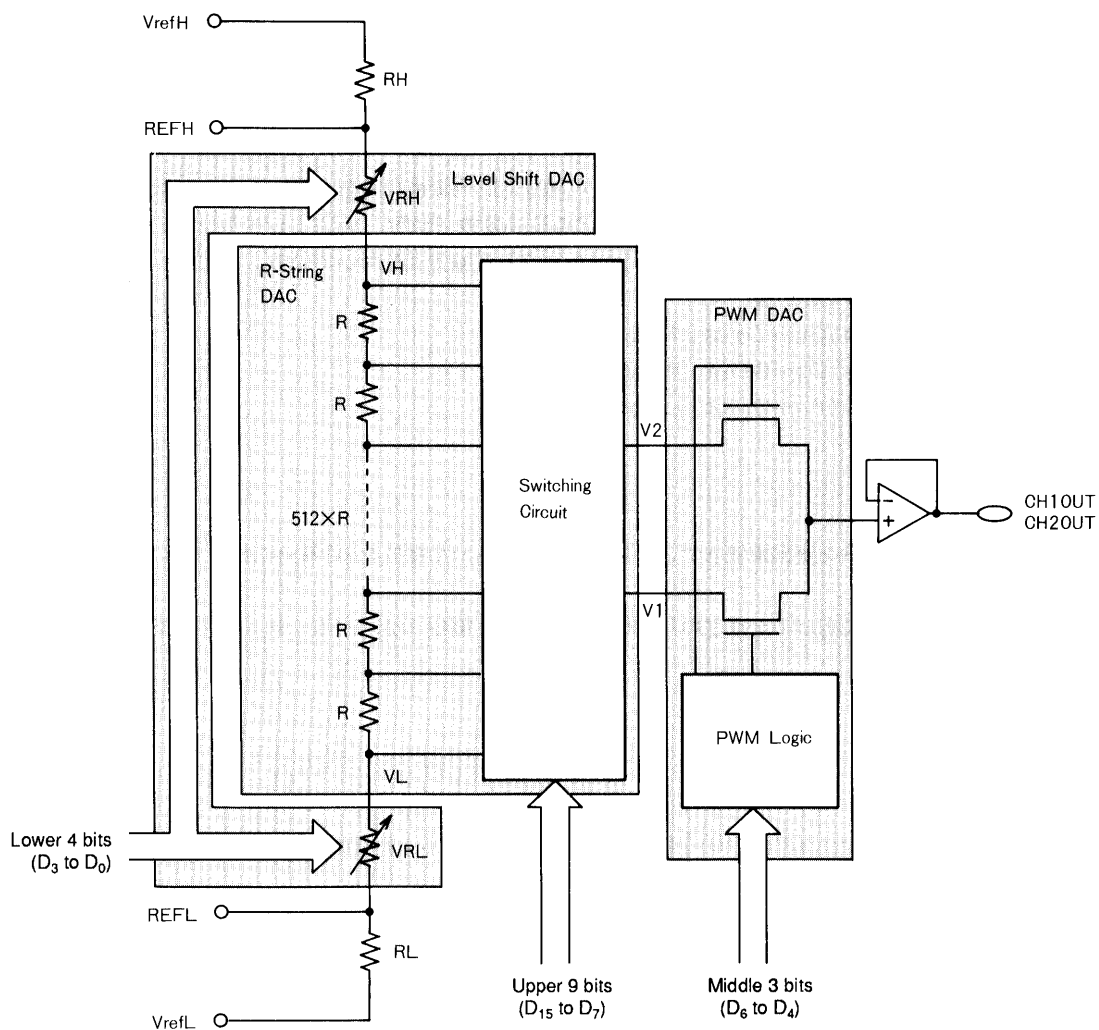

Figure 1 D/A Conversion Technique Used in the LC78816MB and 78816MC
### (2) Converter operation (See Figure 1.)
$V_{ref}$  pins (See Figure 1.)